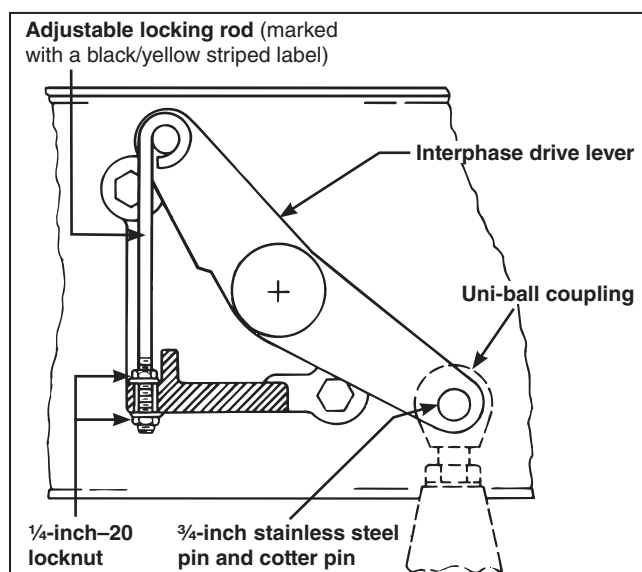

Figure 22. Attach the uni-ball coupling on the operator-connecting link to the interphase-drive lever inside the high-speed base.
STEP 17. Attach the uni-ball coupling on the operator connecting link to the interphase drive lever in the high-speed base using the $\frac{3}{4}$ -inch stainless steel pin and cotter pin retained from Step 7. See Figure 22. An adjustable locking rod (marked with a black/yellow striped label) is furnished, factory connected to the interphase drive lever; turn the associated $\frac{1}{4}$ -20 locknuts as required to raise or lower the interphase drive lever to facilitate insertion of the stainless steel pin.
STEP 18. After the pin is installed, remove the lower $\frac{1}{4}$ -20 locknut that retains the adjustable locking rod, and then remove and discard the adjustable locking rod and locknuts. See Figure 22.